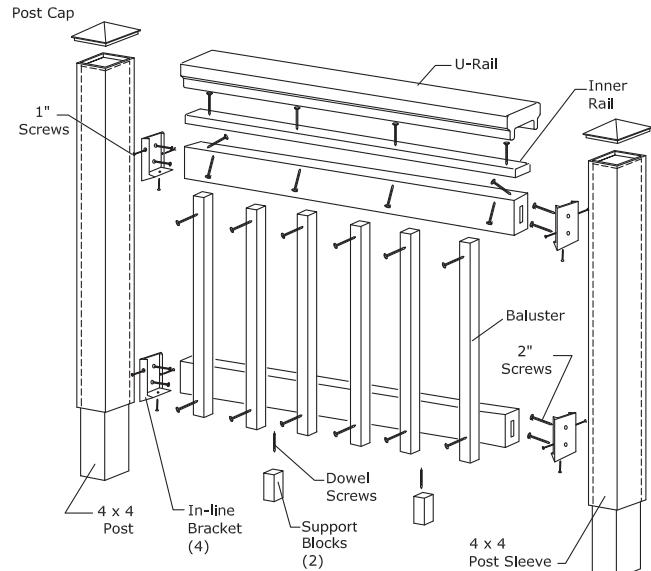

fig.1a
Step 6: Measure the distance between installed post sleeves to determine the length of the top and bottom rails (figs. 1a and 1b). **Note!** Trim the inner rail and the U-rail to the measurement of the gap between the posts. To allow for the thickness of the brackets, trim the 2x4 rails to 7/16" less than the gap between the posts.
Face-Mounted Balusters (fig. 1a)